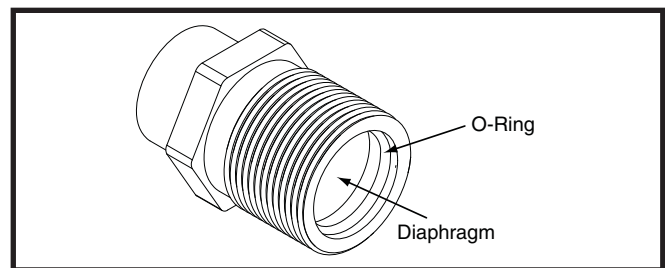

Figure 5. Male Coupling Assembly
5. Apply liberal amounts of refrigerant oil to the entire surface of the diaphragm, O-ring, and threaded area of the male coupling assemblies (Figure 5). **NOTE:** The amount of oil used must cover all designated surfaces sufficiently.